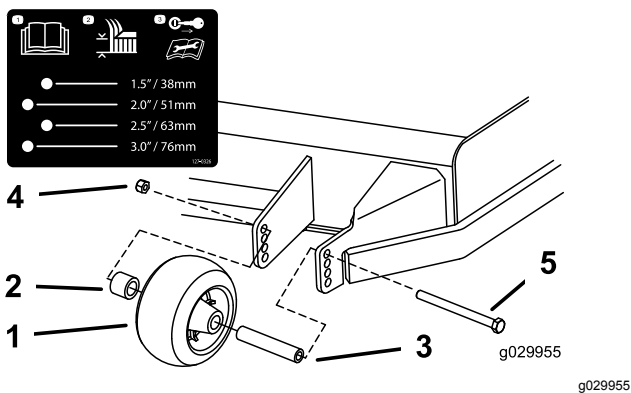
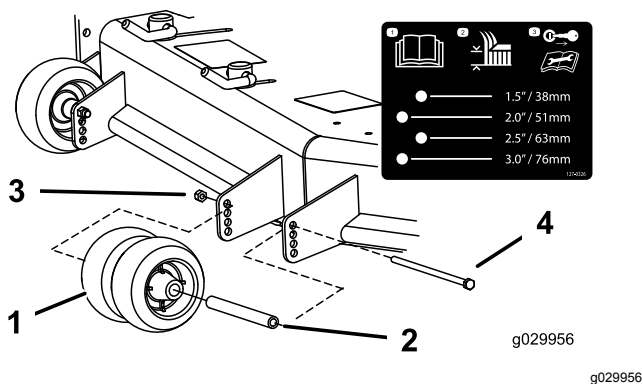
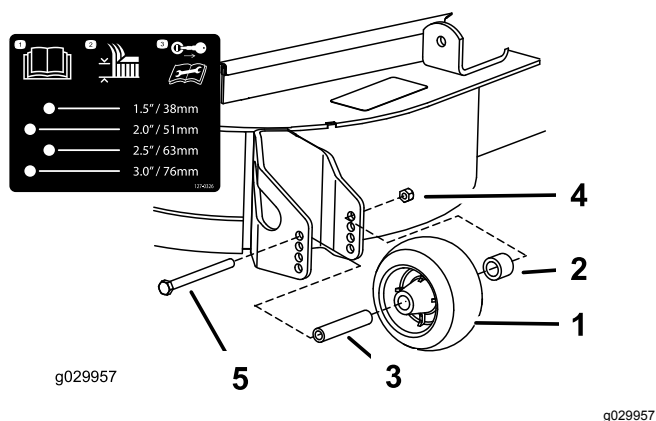

Figure 32
Figure 33
Figure 34
- Adjust the anti-scalp rollers as shown in Figure 32, Figure 33, and Figure 34.